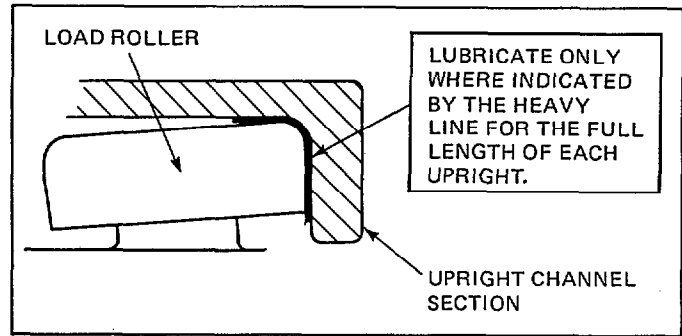

Figure 33. Exploded View of Mast Upright Assembly
1. Lubricate the full length of each upright channel with chassis lube or Kendall SR-12X (Cascade part No. 599474) as shown in Figure 33.